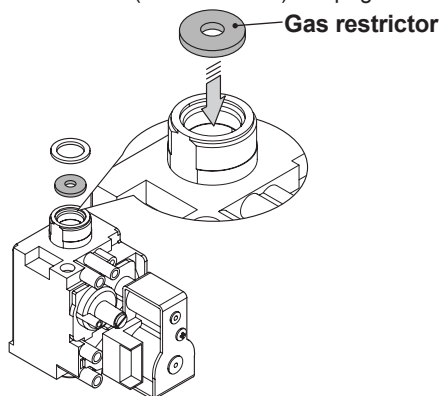

Fig. 9.2
- Carry out gas conversion by correctly replacing the gas restrictor (Fig. 9.2), referring to section "Technical data BASICA COND 28S (M275V.28 SR)" on page 24.